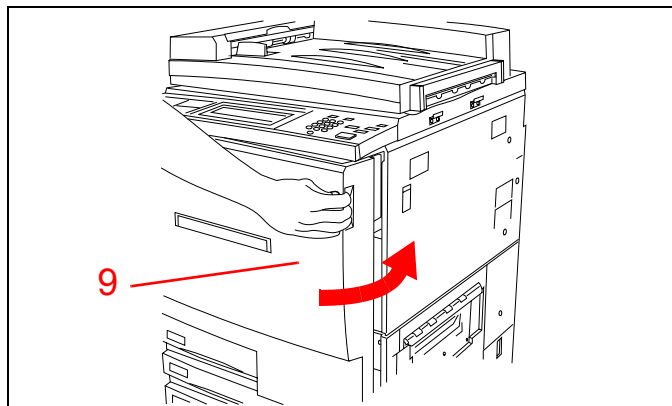

Figure 24
9. Close the front door of the printer. See Figure 24.